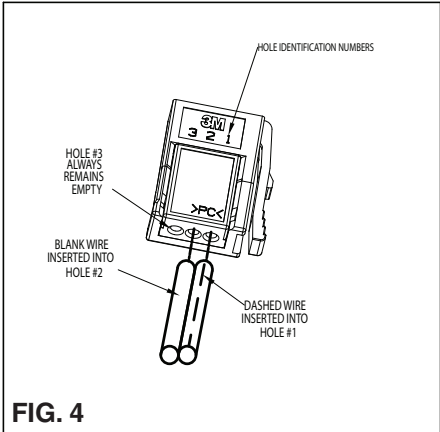

FIG. 4
2. **Do not split or strip the wire.** Note the 1 – 2 – 3 labeled on the top side of the connector just above the transparent gray button. Insert the dashed side of the wire into the #1 hole. The non-dashed side will be along side in the #2 hole. (See Figure 4) Ensure that the wire is fully seated into the connector (approximately 3/8" of engagement.) **NOTE:** THIS SYSTEM IS POLARIZED. THE LEDs WILL NOT LIGHT IF THE POLARITY OF THE WIRES IS REVERSED.